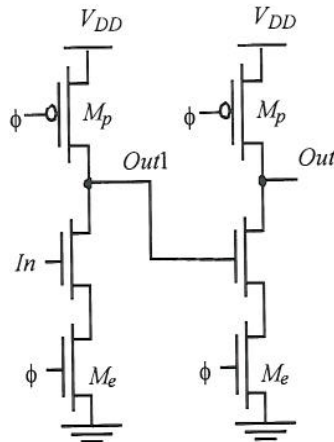

Figure 5.1 Dynamic logic circuit
- c) Using the circuit in Figure 5.1, explain the main problem of dynamic logic. [5]